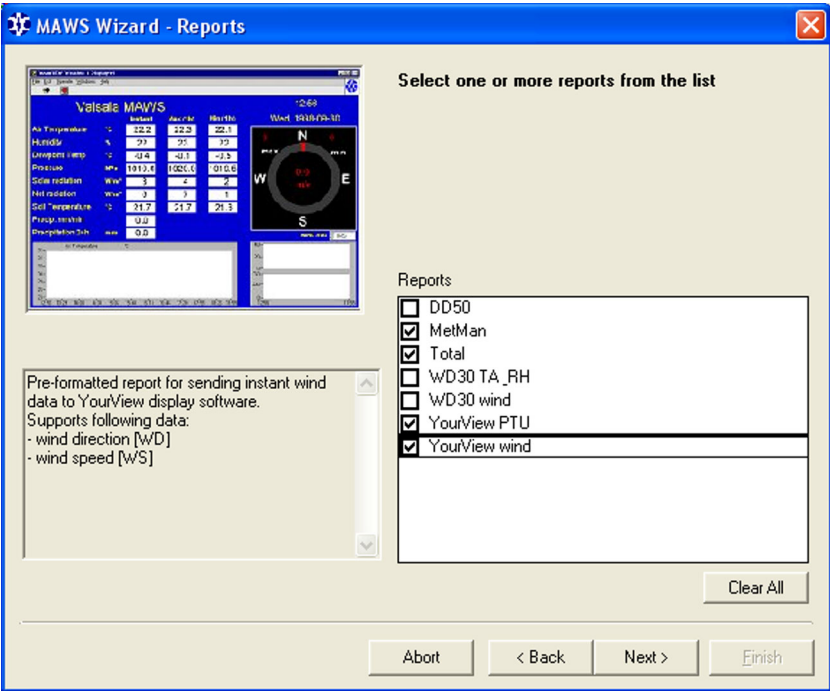

Figure 19 Selecting Reports
9. In the **Reports** view (presented in Figure 19 on page 41), you can select and fill out the reports you want for your setup. After selecting the necessary reports, click **Next**.